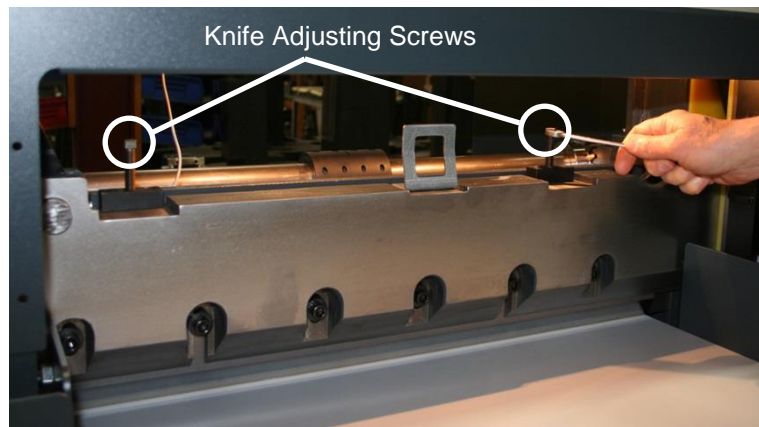

Figure 23
13. Turn the knife adjusting screws (Figure 23) down evenly, a little at a time, until the knife cuts through the bottom sheet of paper the entire length of the cutting stick. Turning the screws down evenly prevents uneven wear on the knife and cutting stick.